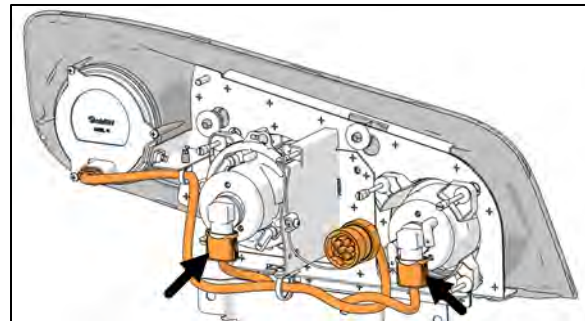

FIGURE 74
3. Unplug the bulb connector (Figure 74).